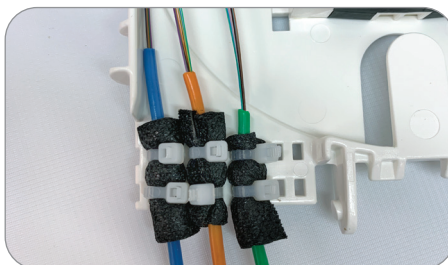

Figure 5
2. **Loose tube:** Use a few wraps of supplied adhesive foam on loose tube products. Two tie wraps per bundle – supplied (Figure 5).